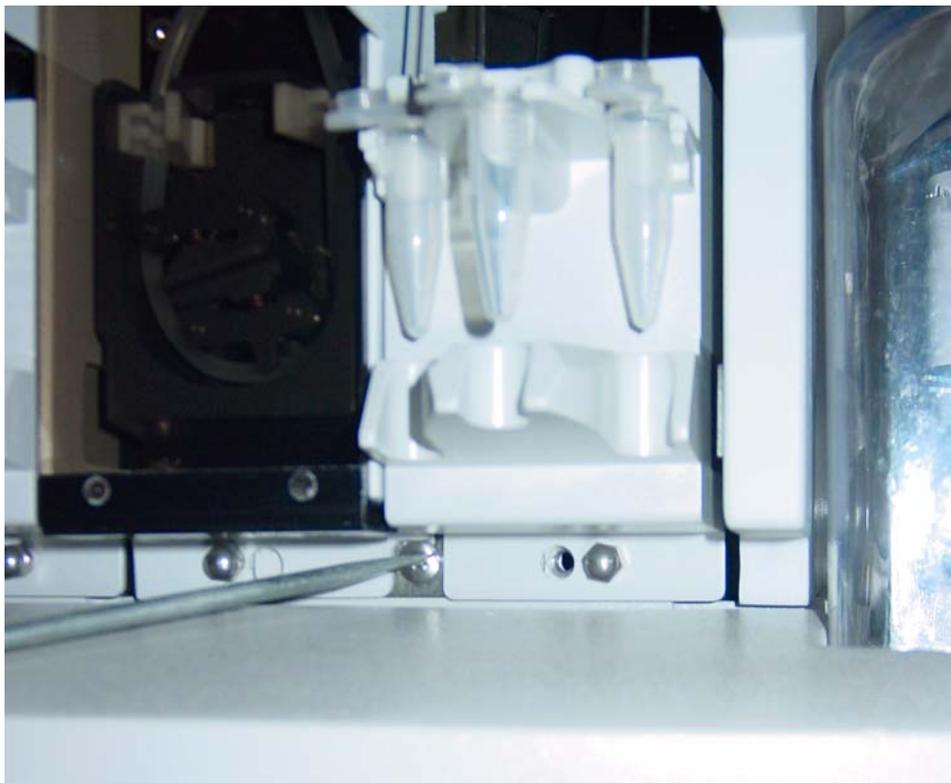

Figure A.4
10. Using a slotted screwdriver (also called flathead, standard, or minus screwdriver), slowly unscrew the module retaining screw located at the base of the module, between the vial holder and pump door. See Figure A.4 and Figure A.5.
3. Align the screw at the bottom of the module into the threaded hole on the base. Using a slotted screwdriver, slowly rescrew the module retaining screw until the module is flush with the other modules. See Figure A.4 and Figure A.5.